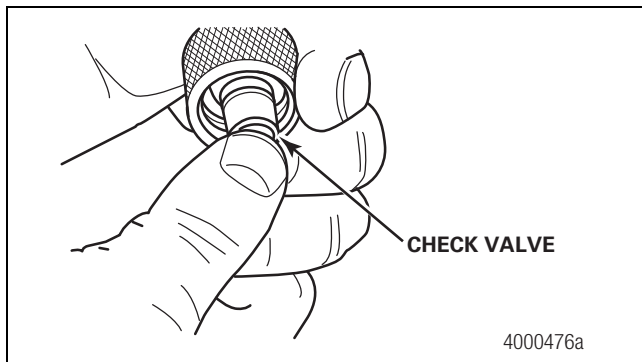
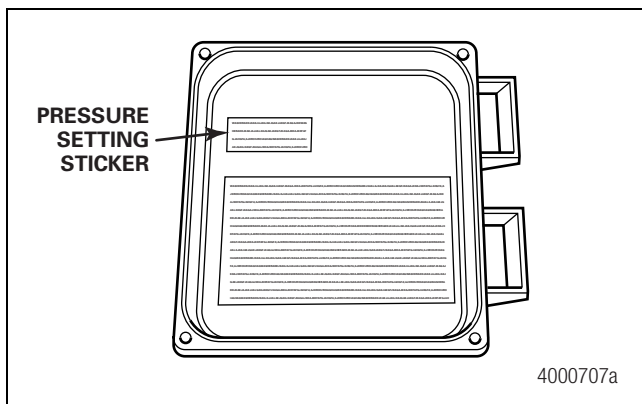

Figure 3.5
Figure 3.6
7. Push on the check valves at the ends of the hoses attached to the tires. Air should flow from the tires. Figure 3.5.
8. Use the check valve in the hoses to reduce pressure in all the tires 5 to 10 psi below the desired tire pressure. A sticker located inside the control box door indicates the tire pressure that the inflation system will deliver. Figure 3.6. For example, if the fleet runs 100 psi (689 kPa), reduce the tire pressure to 90 to 95 psi. Figure 3.5.